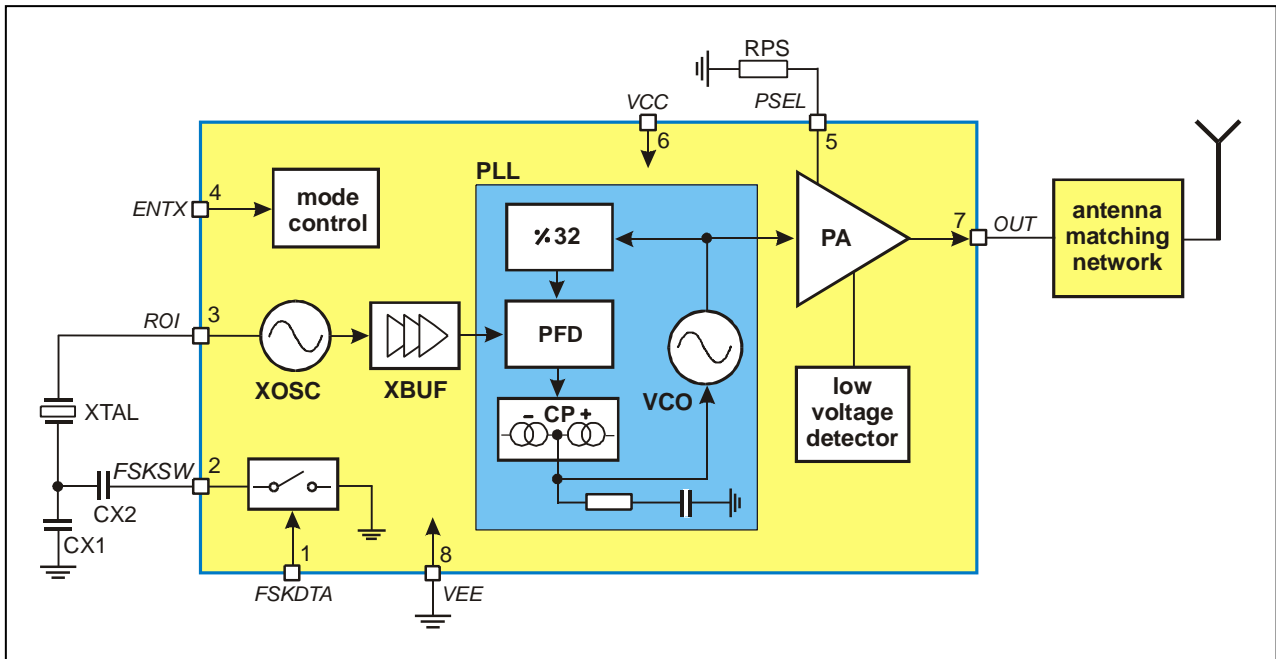

Fig. 1: Block diagram with external components
As depicted in Fig.1, the TH72031 transmitter consists of a fully integrated voltage-controlled oscillator (VCO), a divide-by-32 divider (div32), a phase-frequency detector (PFD) and a charge pump (CP). An internal loop filter determines the dynamic behavior of the PLL and suppresses reference spurious signals. A Colpitts crystal oscillator (XOSC) is used as the reference oscillator of a phase-locked loop (PLL) synthesizer. The VCO's output signal feeds the power amplifier (PA). The RF signal power P_{out} can be adjusted in four steps from $P_{out} = -12$ dBm to +9.5 dBm, either by changing the value of resistor RPS or by varying the voltage V_{PS} at pin PSEL. The open-collector output (OUT) can be used either to directly drive a loop antenna or to be matched to a 50Ohm load. Bandgap biasing ensures stable operation of the IC at a power supply range of 1.95 V to 5.5 V.